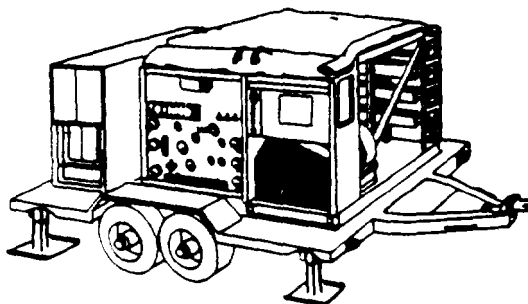
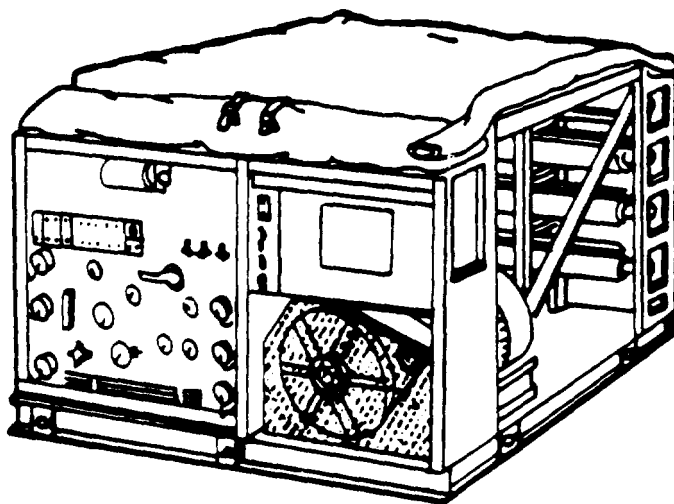

Figure 1-1. Reverse Osmosis Water Purification Unit (ROWPU) (Army)
Figure 1-2. Reverse Osmosis Water Purification Unit (ROWPU) (MC)
a. **Characteristics.** The ROWPU is a mobile water purifying unit needing a 30 kW power source, that supplies drinking water for troops in the field. (See fig. 1-1 (Army) and fig. 1-2 (MC)).
(1) Flow systems within the ROWPU process raw water to make it drinkable. Special pumps, controlled by a built-in control panel, move the water through the ROWPU to produce as much as 10 gallons (37.8 liters) of drinking water per minute. This water is stored in a collapsible tank that can hold up to 3,000 gallons (11,340 liters). The ROWPU can be transported by rail, road, or air.
(3) The Army and Marine Corps units are essentially the same except that the Marine Corps' ROWPU is mounted on a skid and does not incorporate a generator.